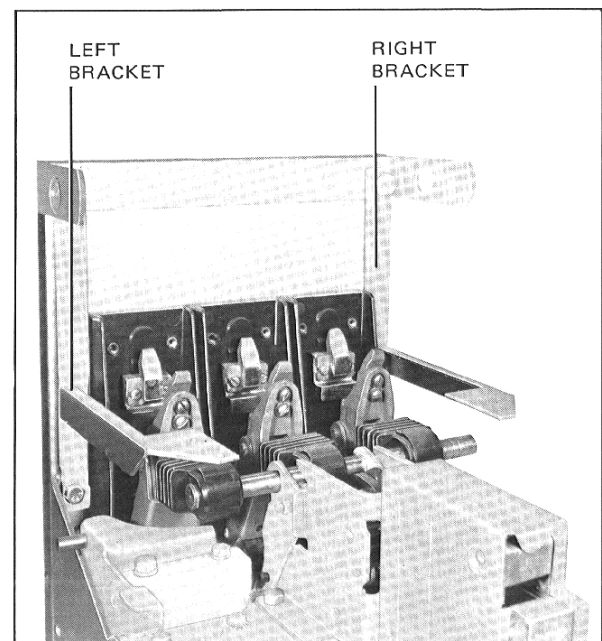

Fig. 11 Mounting of Amptector Bracket
- The Amptector Mounting details consist of two (2) "T" shaped brackets, one right and one left hand which are secured to the rear frame. Remove the existing bolts at top, place bracket over lift bracket and secure with .5-13 x 1.25 bolt, using the existing hole secure the bottom end of bracket with .38-16 x 1.5 bolt, Fig. 11.